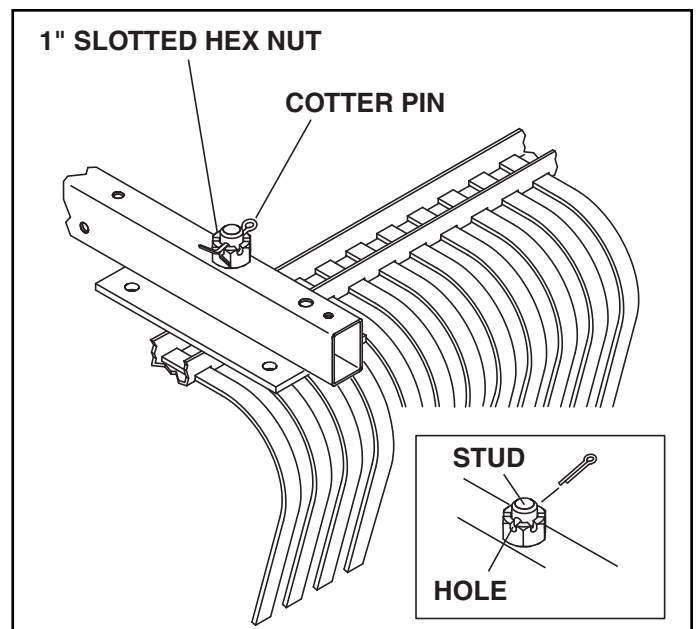

FIGURE 3
- Back the slotted nut off until the first slot in the nut lines up with the hole in the threaded stud. If the hitch assembly will not pivot on the threaded stud, back the nut off to the next slot. Install the cotter pin through the stud and spread the ends of the pin. See figure 3.